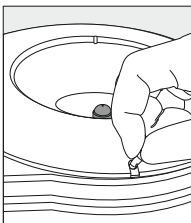
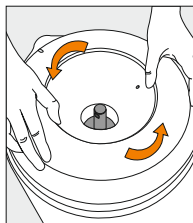

Figure 32
Figure 33
3. Remove the locking pin (Figure 32) from the Crystal Guard, which may be stiff, requiring a tool. Remove the Crystal Guard by placing fingertips of both hands and turning it counter clockwise till it is free from the cooler opening. (Figure 33)